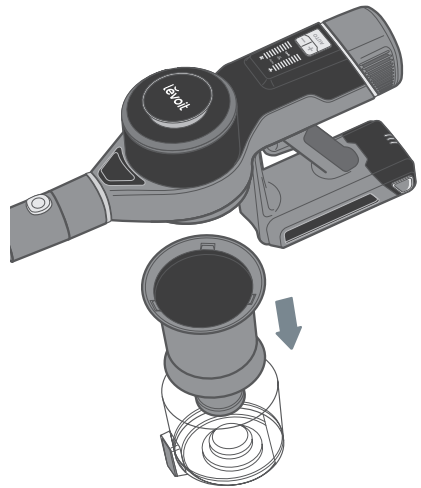

Figure 3.2
3. Rotate the metal filter clockwise to remove it [Figure 3.2].